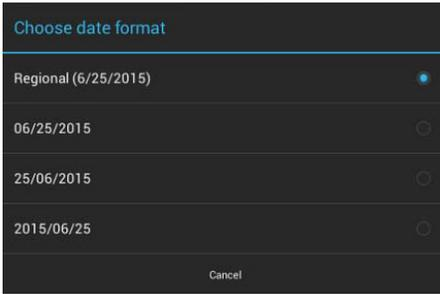

**FIG. 82** Select Time Zone window
Select Time Zone:	Use the Select Time Zone window (FIG. 82) to select the current time zone.
1. Press **Select Time Zone** to open the *Select Time Zone* window (FIG. 82).